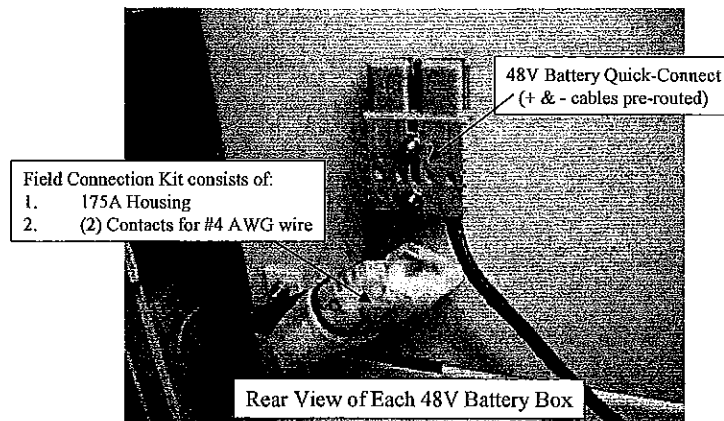

Figure 7: DC Power Connection Points for External DC Loads (BTS's)
1. Figure 7 shows the rear cabinet door open and the areas where the external DC Power connections (+ & -) will be made.
2. The cables that will feed external loads (BTS's) should be routed into the cabinet through an available K.O. in the side plates (see Figure 8 below). Appropriate conduit & fittings should be used to maintain the environmental integrity of the cabinet. Cables should be #4 and have sufficient length to reach the connection point shown in Figure 7 for each 48V Battery Box.
3. The "Battery-End" of the Quick-Disconnect cables is pre-attached to the battery box and route around to the front to connect to the batteries. See Figure 7.
4. The "Load-End" of the Quick-Disconnect cables must be assembled in-the-field using the provided "Field Connection Kit" which consists of a 175A dual-input housing and (2) contacts to be crimped onto the incoming #4 cables. See Figure 7.